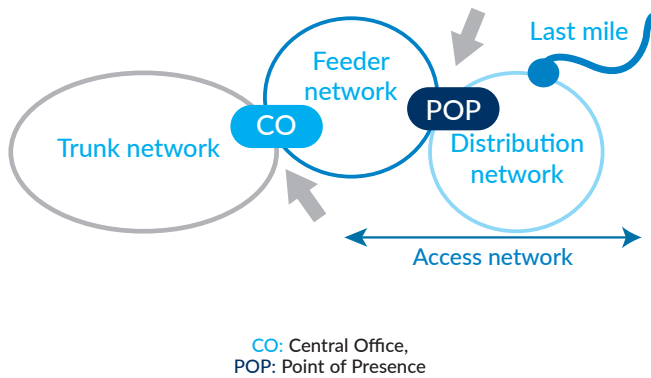

Figure 1: Network segments & consolidation points
A total communication network consists of trunk, feeder and distributions networks up to the last mile. A central office (CO) or point-of-presence (POP) can reside at each intersection of these network rings (see Figure 1).